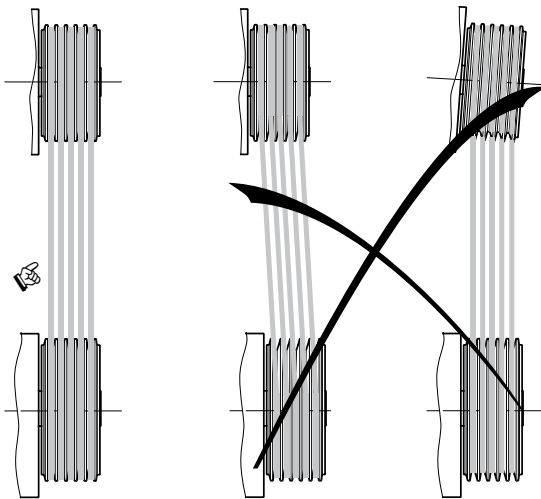

Fig. 5
See section 4.1 page 3 of the general manual (ref. 5702). Check the connections are correctly aligned (see figure 5). For pulley and belt installations, compatibility of the forces (radial and axial) exerted on the shaft **MUST** be compared to those listed in the relevant sections of the technical catalogue reference 3805.